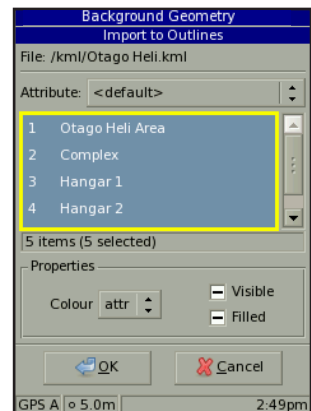

fig 8.3 Import GPS items ('All' selected)
3. Highlight list using **TAB** (fig 8.3) then press **MENU**. Select desired GIS items to import by highlighting **'Select'**, then **'All'** or **'None'** or **'Multi-select'** using **⬇** (see **'Hint'** in 9.2.5). All items are selected by default.